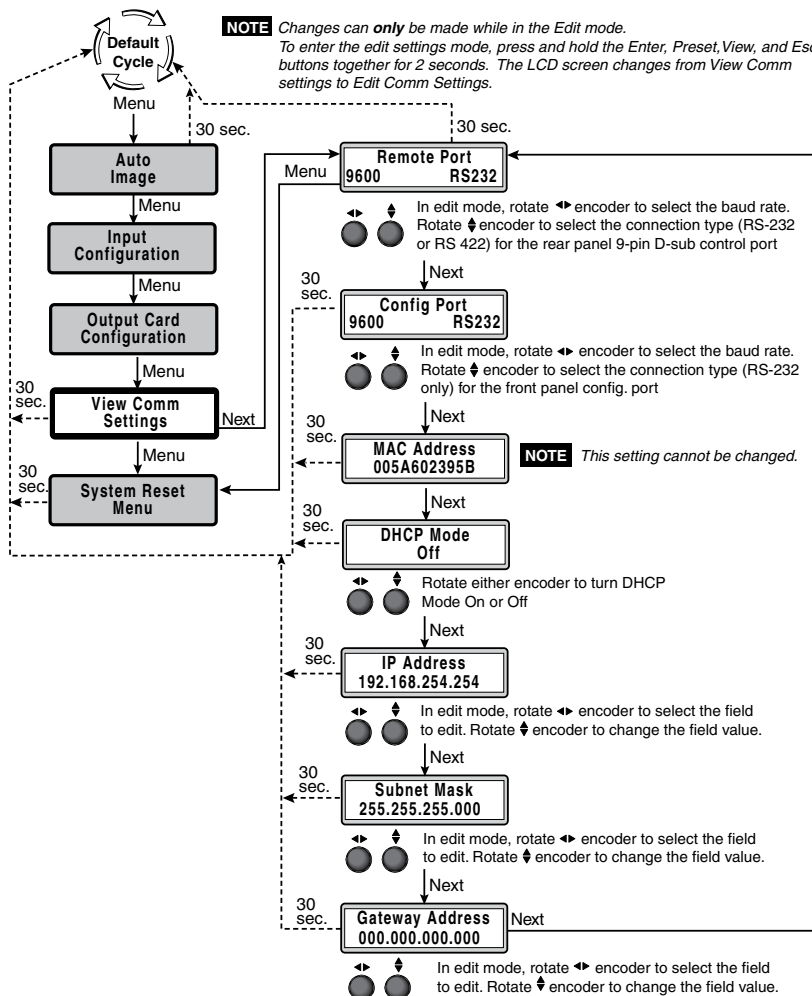

Figure 3-50 — View/Edit Comm Settings menu
1. From the default cycle, press the Menu button four times to go to the View Comm Settings menu (see figure 3-50)